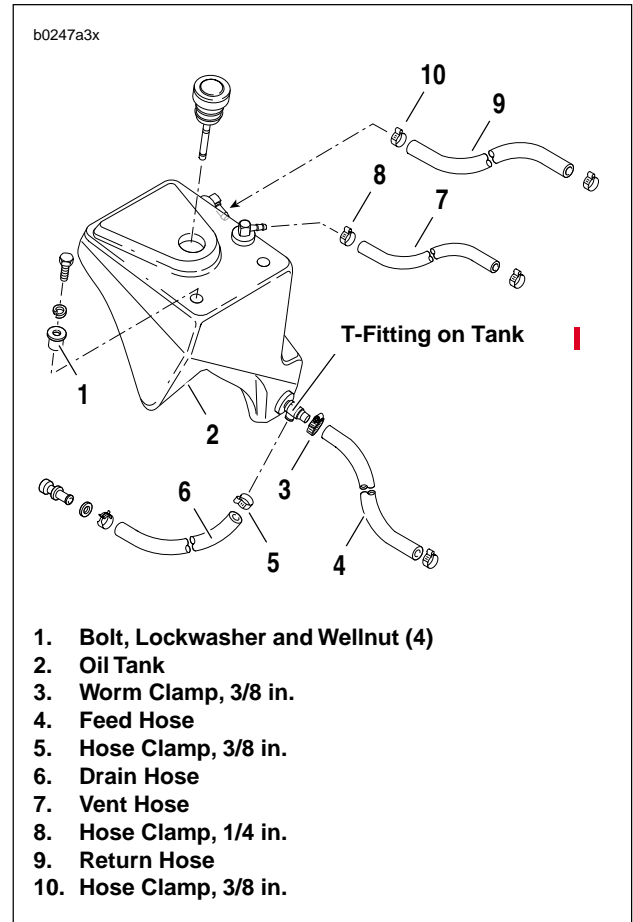

Figure 3-46. Oil Tank
4. See Figure 3-46. Remove clamps to detach hoses from oil tank. Label each hose upon removal.
- a. Remove feed hose worm clamp (3) from T-fitting.
- b. Remove 3/8 in. drain hose clamp (5) from T-fitting.
- c. Remove 1/4 in. clamp (8) from vent hose (7).
- d. Remove 3/8 in. clamp (10) from return hose (9).
5. Remove four bolts and lockwashers from wellnuts (1).
1. See Figure 3-46. Place oil tank on frame and align mounts. Loosely install bolts and lockwashers (1) at all four mounting points.